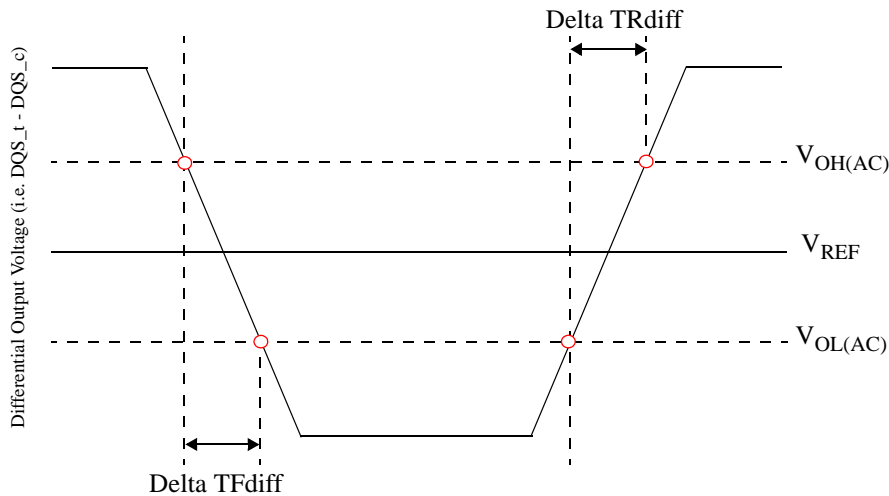

Figure 113 — Differential Output Slew Rate Definition
With the reference load for timing measurements, output slew rate for falling and rising edges is defined and measured between VOLdiff(AC) and VOHdiff(AC) for differential signals as shown in Table 86 and Figure 113.